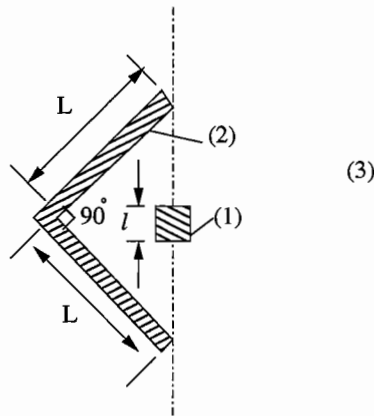

Fig. 2
2 A square heater with side l , marked as (1) in Fig. 2 has emissivity of $\epsilon_1 = 0.9$ and operates at temperature T_1 . Its radiation to an infinitely large region (3) on the right to the centre line is maximised by placing a perfectly insulated reflector (2) as in Fig. 2. The ratio l/L is 0.5 and the region (3) is at temperature T_3 . Both the heater and the reflector can be assumed to be diffuse grey bodies.